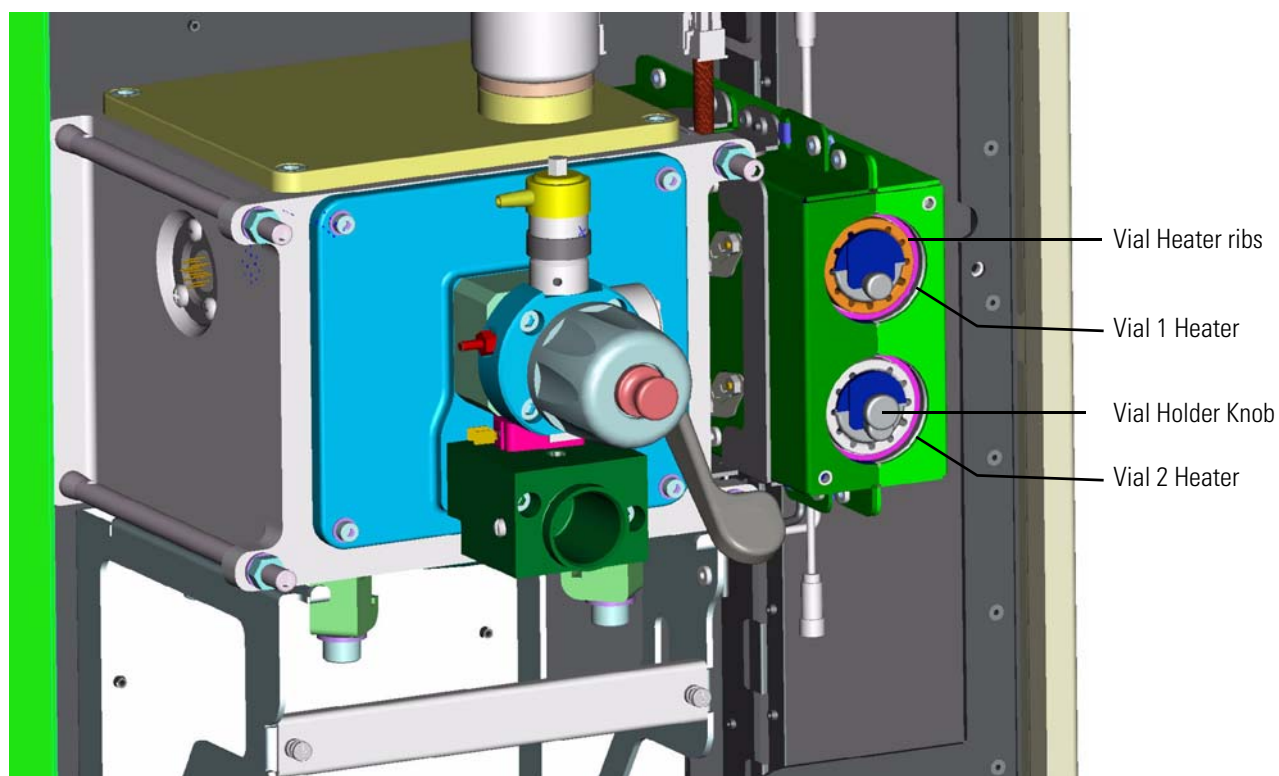

Figure 6-47. ETD Module with vial heater cover removed
6. Remove the empty vial if it is present. The vial holder is a cylindrical tube with a handling knob at one end and ribs along its length. See Figure 6-46. These ribs prevent the vial holder from rotating when it is placed into the vial heater. Figure 6-47 on page 6-55 shows the tab and ribs of a vial holder in the vial heater.